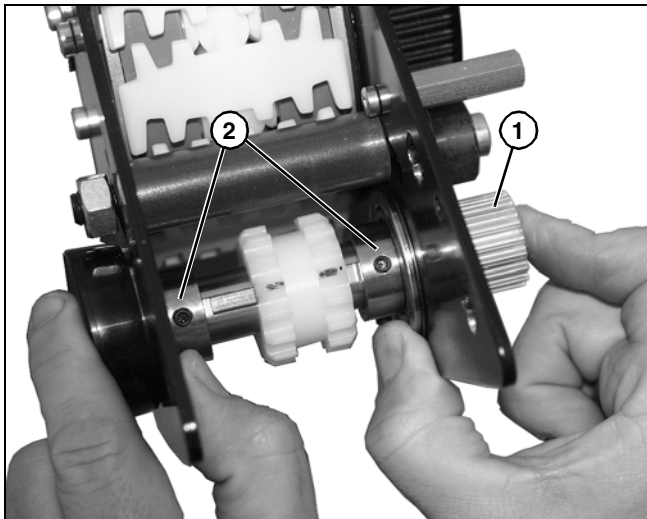

Figure 102
1. Install drive shaft (Figure 102, item 1) on two bearings (Figure 102, item 2) and press outward as shown.